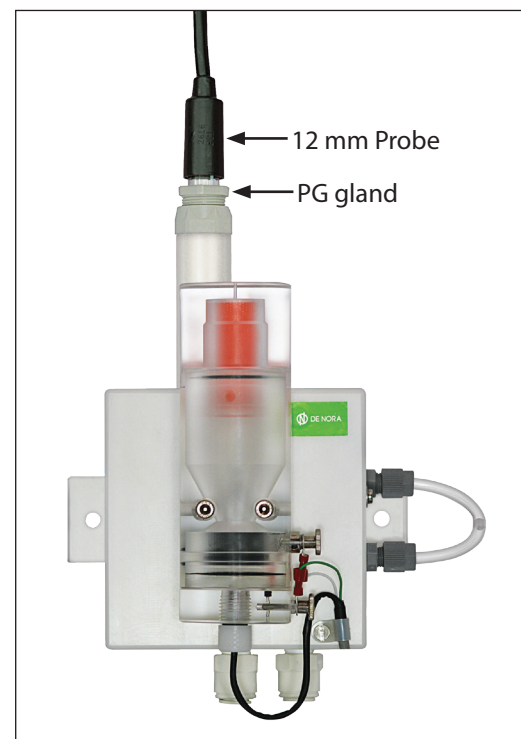

Figure 4 – 12 mm Probe Mounting
2.3.2 12 mm Probe installation (See Figure 4)